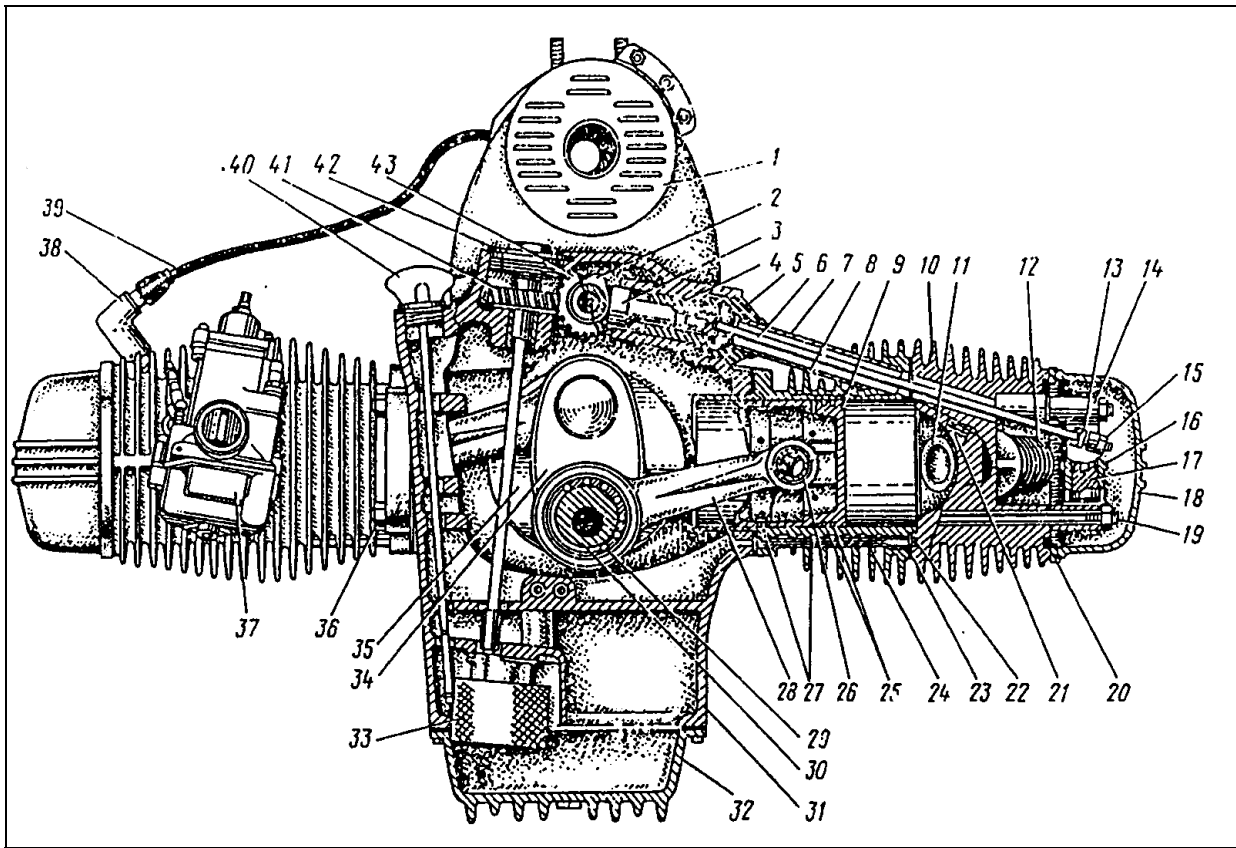

Figure 4.1-2. Engine (cross section)
The engine cylinders (8) (see Fig. 4.1-2) are identical in design and interchangeable. A gasket is fitted between the cylinder and the crankcase to control oil seepage.